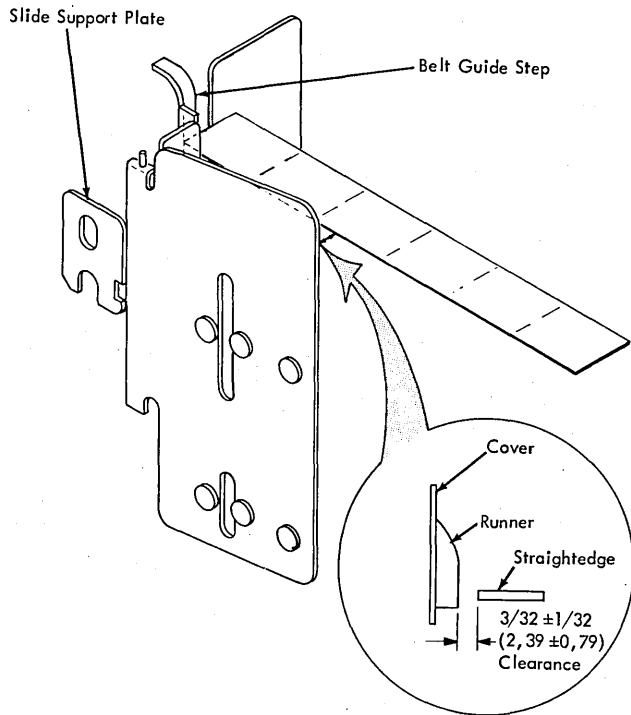

Figure 4-12. Tractor-Door Opening Limit
7. Adjust the slide support plate to limit the tractor door open position. Place a straightedge against the belt-guide step perpendicular to the tractor guide plate as shown in Figure 4-12. Adjust the slide support plate to obtain $\frac{3}{32} \pm \frac{1}{32}$ in. (2, 39 \pm 0, 79 mm) clearance between the door and the straightedge. Be sure to maintain proper belt tension when tightening the plate holding nut.